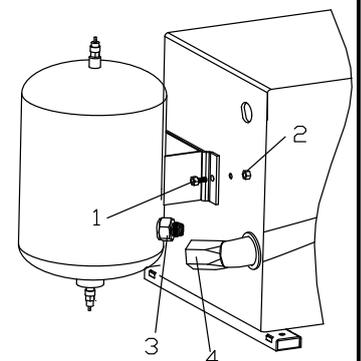

Fig 4
- 1) Demount the left cover,fix the body and the air storage tank with bolt(1) and screw cap(2);
- 2) Fix the metal hose and the connector,ensure no air leakage(**Fig 4**)